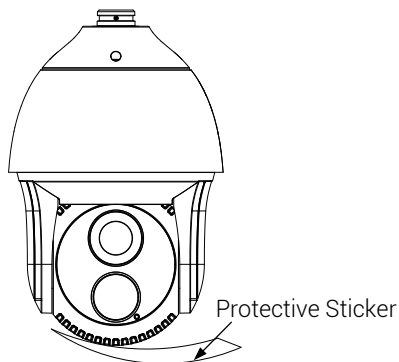

Figure 3-1 Remove Protective Sticker
1. Remove the protective sticker as shown in Figure 3-1.